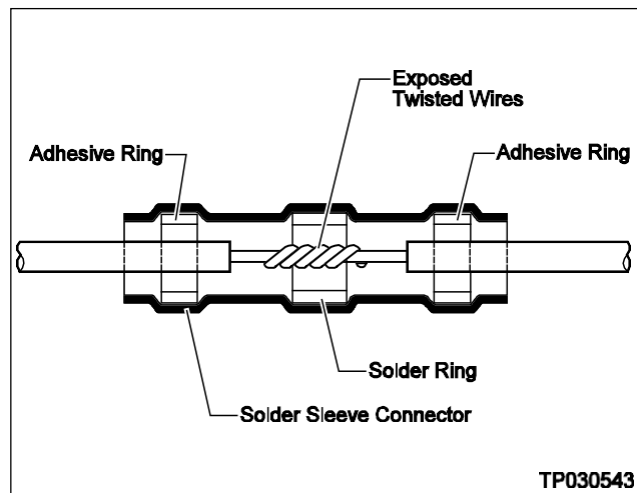

Figure 56
56. Position the solder sleeve connector so that the solder ring (in the connector) is centered around the exposed twisted wire area (Figure 56).